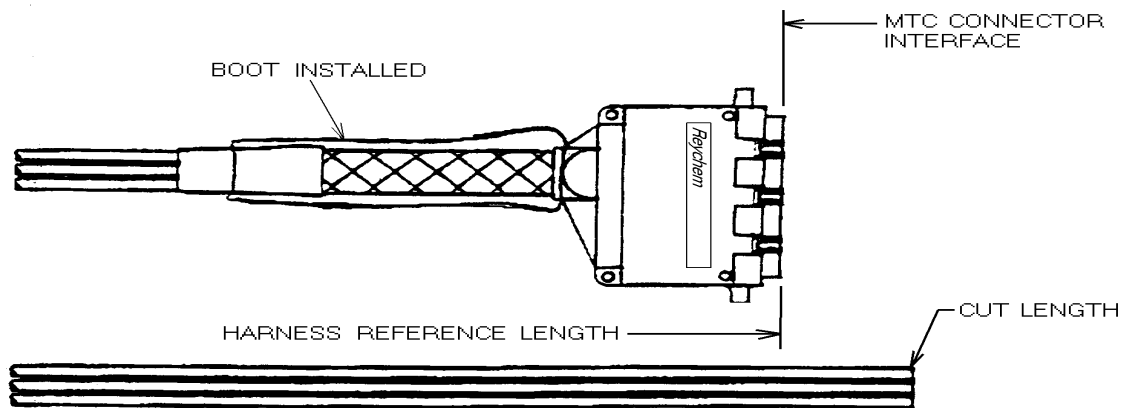

Figure 5-1. Cable Length Determination.
1. Cut the wires and component cables slightly longer than the reference length of the harness (Figure 5-1).
- Position boot, then heat. (refer to Fig. 5-1 for boot position).